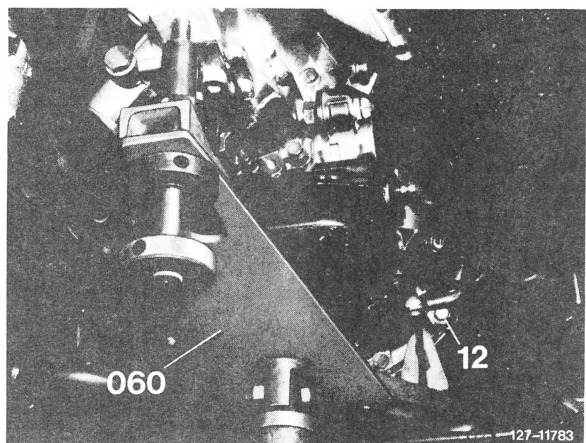

Fig. 12
23 Unscrew all fastening bolts for transmission — engine, removing the two lateral bolts (12) last (Fig. 12).
29 Carefully insert torque converter while turning slightly back and forth (Fig. 12). Also make sure that the sealing lip of the primary pump radial sealing ring is not damaged during installation.